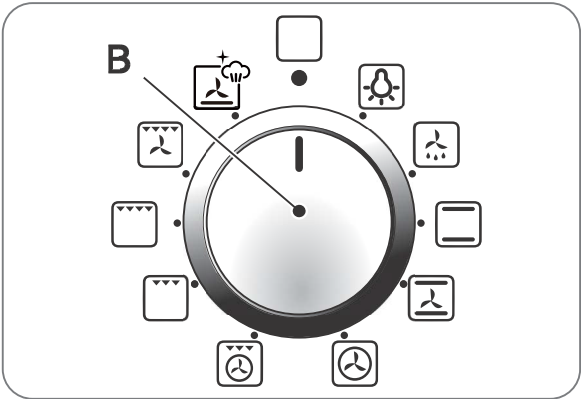
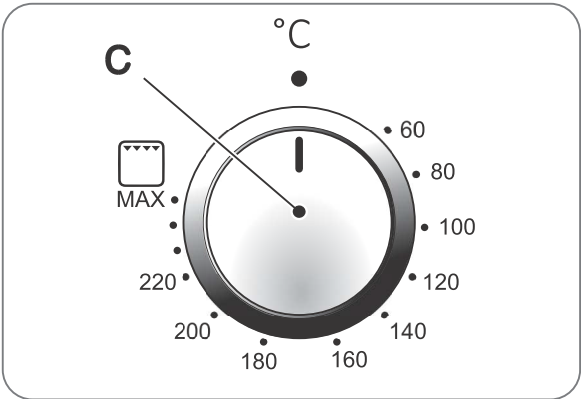

Fig. 4.2
Fig. 4.3
To switch on and use the oven in manual mode (disabling the cooking programmer), simply set the cooking mode selection knob (B, Fig. 4.2) to the required position and then set the temperature on the thermostat knob (C, Fig. 4.3).
- 3 - On the cooking mode selection knob (B, Fig. 4.2) set the required cooking function, and with knob (C, Fig. 4.3) set the thermostat.